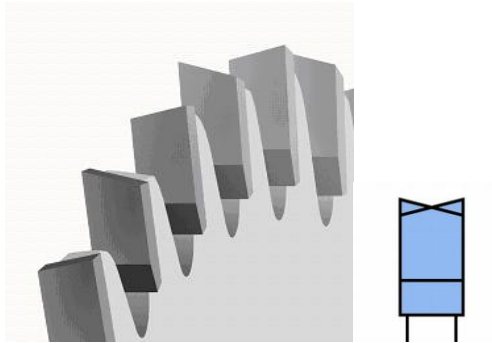

Figure 9: Alternate top bevel (source: Leitz GmbH & Co. KG)
Alternate top bevel (WZ) is the universal tooth shape for trimming and separating cuts. The tooth configuration results in a lower power consumption of the machine. The pull cut of the alternate top bevel provides excellent quality at the entry side. This blade can be easily sharpened (figure 9).